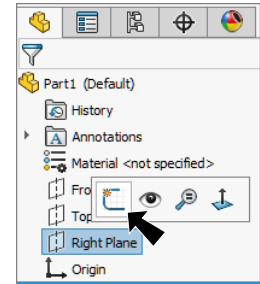

Fig. 1
Step 2. Click **Right Plane**  in the Feature Manager and click **Sketch**  on the context toolbar, **Fig. 1**.
Step 3. Click **Line**  (L) on the Sketch toolbar.